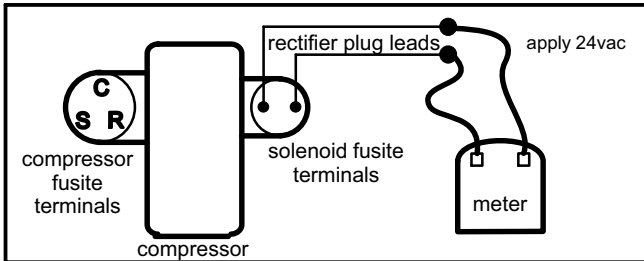

FIGURE 14
2. Supply 24 volts AC control voltage to the wire ends of the full wave rectifier plug. Listen for a “click” as the solenoid is energized. See figure 14.